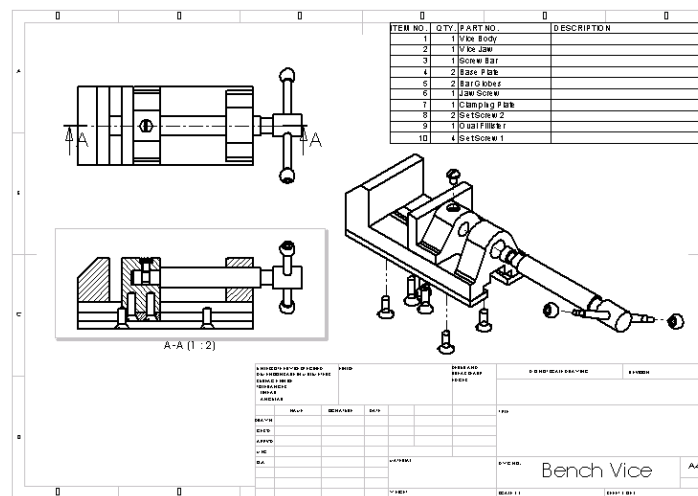

Figure 13-41 Drawing sheet after generating the BOM
- Generate the BOM, refer to Figure 13-41.
The drawing sheet after generating the BOM is displayed in Figure 13-41.